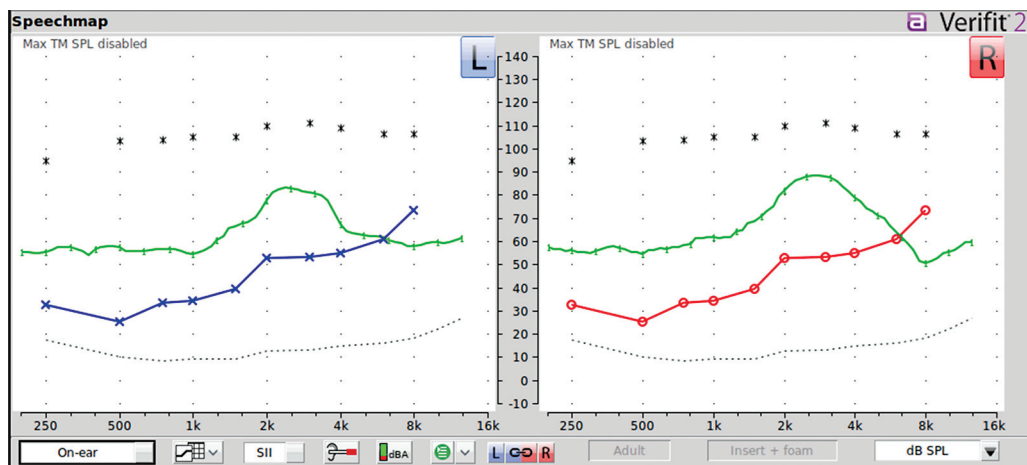

Figure 23 Pink noise presented at 70 dB with no noise reduction engaged.
- a little while and you will see that the curve does not change because no noise reduction processing is occurring. You can stop the signal. Observe the measured curve (Figure 23). You used noise in this measurement because the noise reduction algorithm reacts to a noise input.